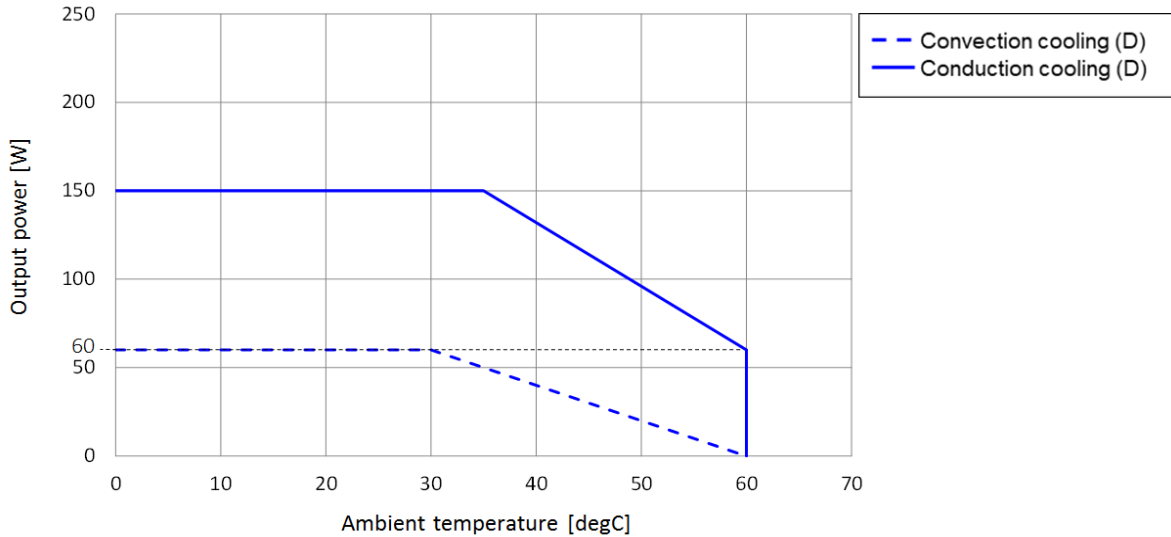

Fig 2.8 Conduction cooling at (D) mounting
The derating curve comparison between conduction cooling and convection cooling (D) mounting is shown in Fig 2.8.